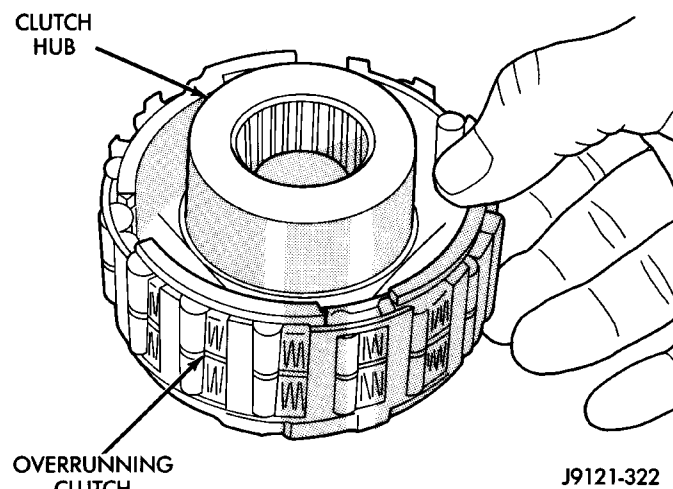

Fig. 226 Assembling Overrunning Clutch And Hub
(8) Install overrunning clutch on hub (Fig. 226). **Note that clutch only fits one way. Shoulder on clutch should seat in small recess at edge of hub.**
(9) Install thrust bearing on overrunning clutch hub. Use generous amount of petroleum jelly to hold bearing in place for installation. **Bearing fits one way only. Be sure bearing is seated squarely against hub. Reinstall bearing if it does not seat squarely.**